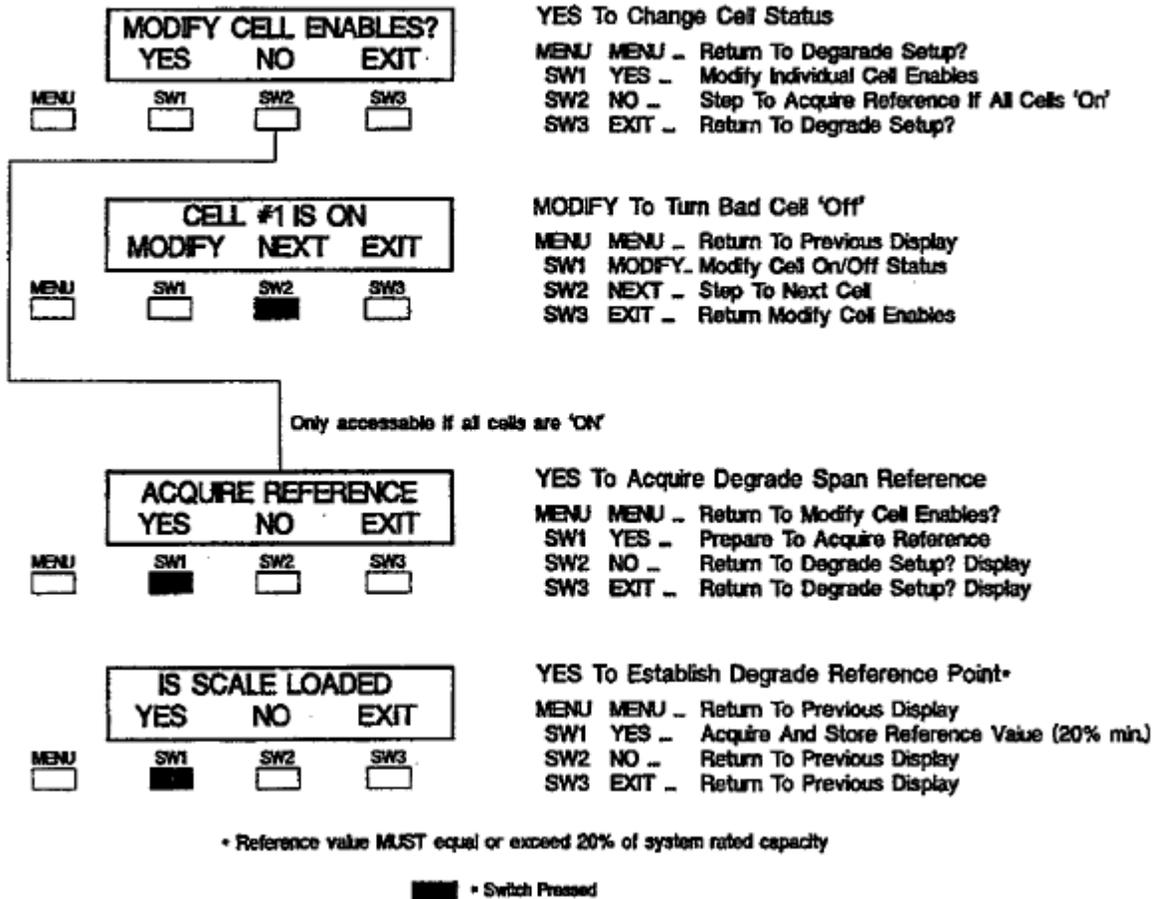

Figure 6-10. Degrade Mode Cell Selection and Reference.
<div style="border: 1px solid black; padding: 5px; width: fit-content; margin-bottom: 10px;"> <p style="text-align: center; margin: 0;">DEGRADE SETUP?</p> <p style="text-align: center; margin: 0;">YES    NO    EXIT</p> </div> <div style="margin-bottom: 10px;"> <p>MENU <input type="checkbox"/></p> </div> <div style="display: flex; justify-content: space-around; width: 100px;"> <div style="text-align: center;">SW1 <input type="checkbox"/></div> <div style="text-align: center;">SW2 <input type="checkbox"/></div> <div style="text-align: center;">SW3 <input type="checkbox"/></div> </div>	<p>YES To Acquire Reference or Modify Cell Enable</p> <p>MENU MENU _ Return To Previous Display</p> <p>SW1 YES _ Figure 6-10 - Perform Degraded Setup</p> <p>SW2 NO _ Go To Cell Diagnostics</p> <p>SW3 EXIT _ Return To Cell Diagnostics</p>
To activate degraded mode operation it is necessary to shut-off the suspect channel using the Cell Enable menu (Figure 6-10) accessed via the keypad. It is not possible to automatically activate this mode internally or remotely through the serial port.
- [3] Proceed to the Degrade Setup Menu (Figure 6-10) and make sure all cells are 'On'.
Paragraph 8.3.1 defines the four remote inputs option-ally available with DXp-40 instruments. This section of diagnostic configuration determines whether or not individual remote inputs are enabled. Follow the flow diagram presented in Figure 6-10 to enable or disable each of the four inputs as desired.